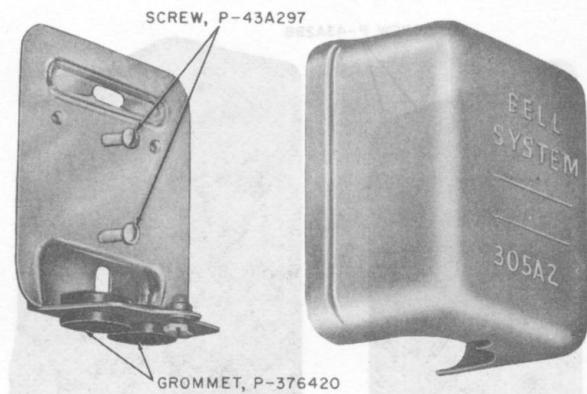

Fig. 12—305A2 Protector Mounting
3.05 The 305A2 protector mounting (Fig. 12 and 13) is intended to house the 128A1A, 123B1A, or 128A1A-2 protector for outdoor installation. It is preferred over the 150B cover for extremely hot or cold temperatures. This protector mounting consists of a metal base and a